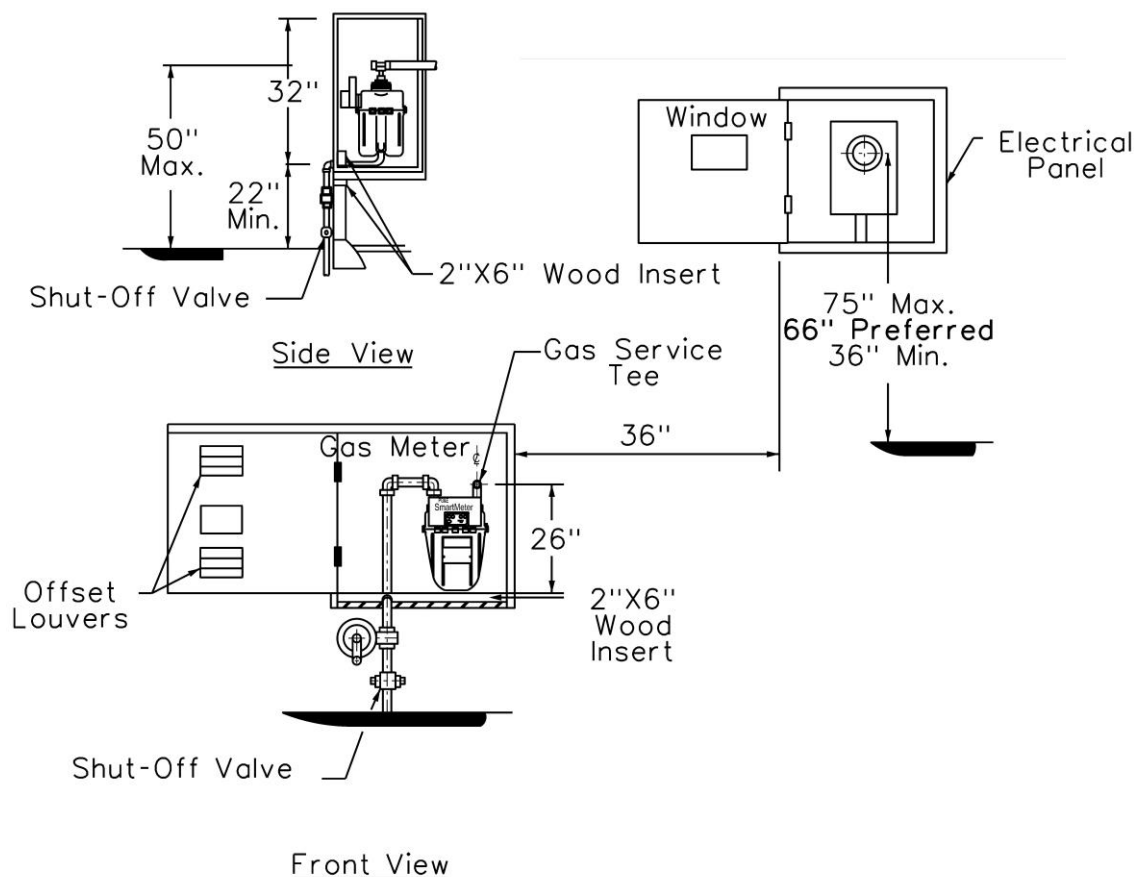

Figure 10. Specifications for a Recessed Individual Meter Cabinet
- (1) Cabinets are limited to a minimum depth of 18 inches and a maximum depth of 36 inches. See Figure 10, below, for specific meter cabinet sizes and clearances. Cabinets deeper than 36 inches must conform to the requirements of GDS J-16.